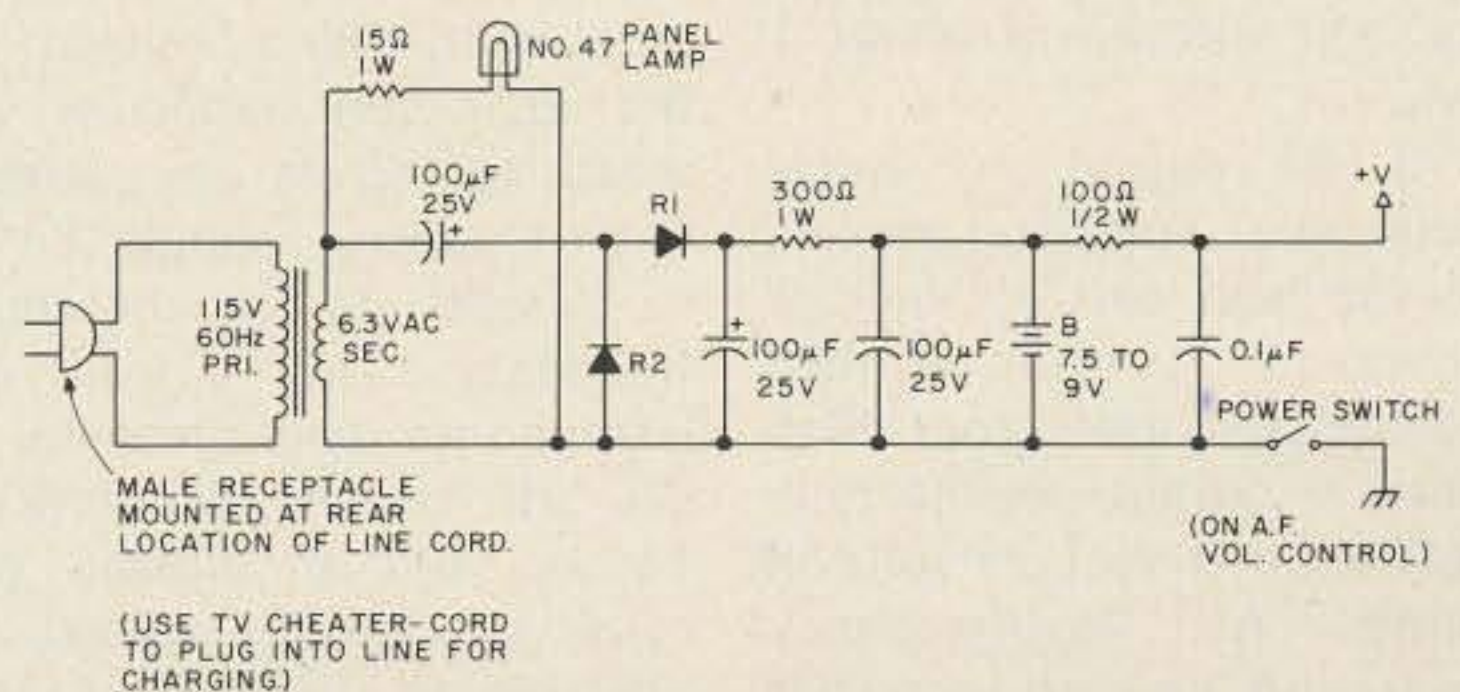

Fig. 2.
3. Unsolder and disconnect power transformer connections (filament supply line and high-voltage rectifier-filter system), and reconnect the power supply components as shown in Fig. 2, using additional components as needed.
high when there is an input signal, and it stays high for the duration of the time-out period. The other one has pin 3 going high when the signal leaves the receiver, and it stays high for the squelch-tail time. The transmitter will be on the air if either one has a high on pin 3. A third timer counts a little less than 3 minutes and then allows the COR to start the ID the next time a signal leaves the receiver. This obeys rules 3 and 4. The only thing left is that nasty little rule 6. So, after getting the thing to work and then removing parts until just one more removal will stop it from working, I arrive at Fig. 2.
Fig. 2. IC1-3 — 555; IC4 — 7413; IC5a-f — 7404. The diodes can be any silicon diodes: The transistor is dependent on the current requirements of the transmit relay — anything from 2N222 to 2N5655.